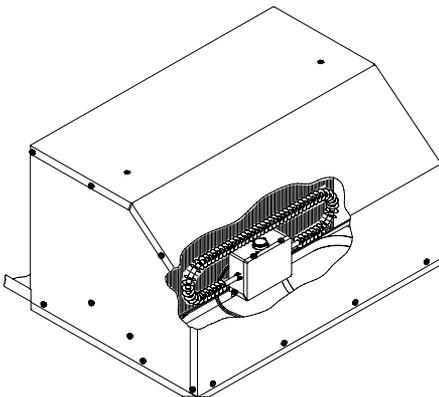
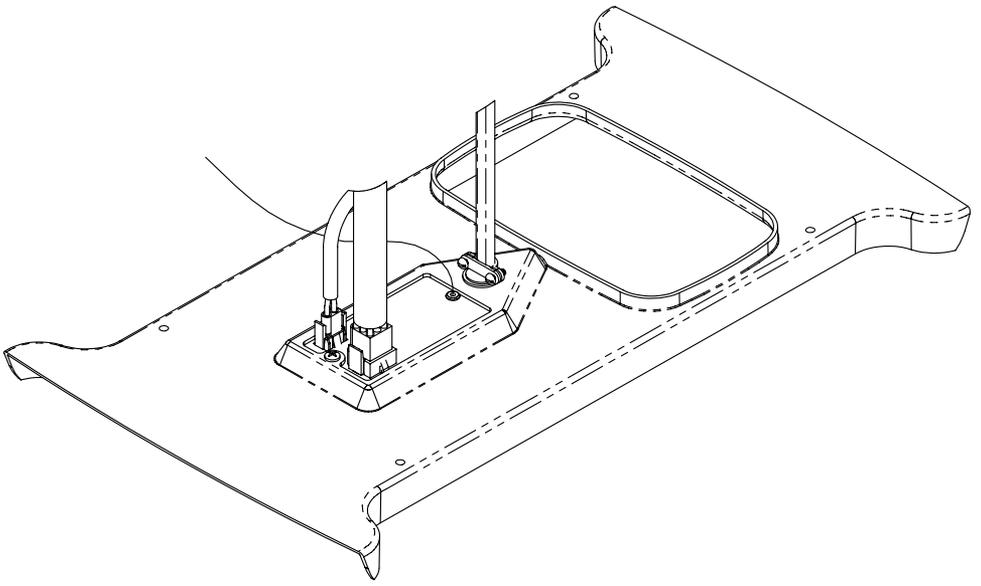

FIGURE 7
FIGURE 9
If the heater option is being installed, position the heater assembly in the Heat Pump return air opening as shown in Figure 7. The heater bracket must be installed over the metal basepan extrusion and positioned between the basepan and the plastic drain pan (See Figure 9). Tighten set screw to secure the assembly to prevent movement. Replace the selector switch control knob on the ceiling assembly with the knob provided with the optional heater.
- C.** Raise the ceiling assembly chute and insert the supply wiring through the cable clamp and into the wiring box so that 4-6" of supply conductor is inside the box. Secure the cable clamp over the supply wire sheath so that no movement is possible (See Figure 9).
- F.** Plug the Heat Pump electrical conduit into the 9 position receptacle as shown in Figure 9.
- G.** If the optional heater accessory package is being installed, remove the cover from the 2 position receptacle and plug the heater cord into receptacle as shown in Figure 9.